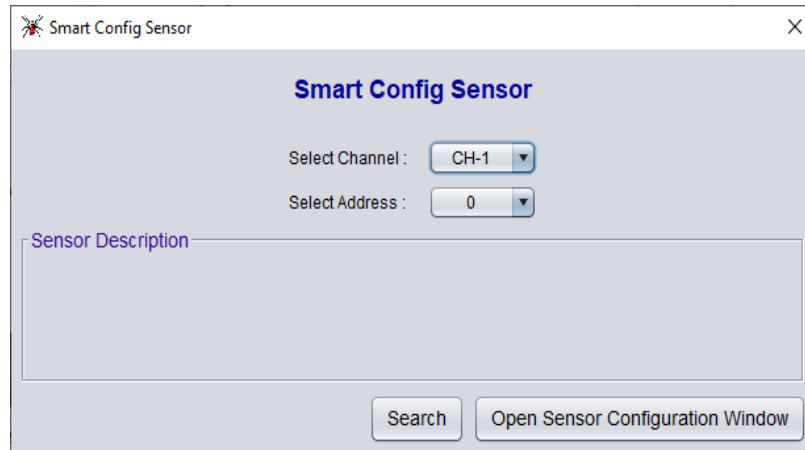
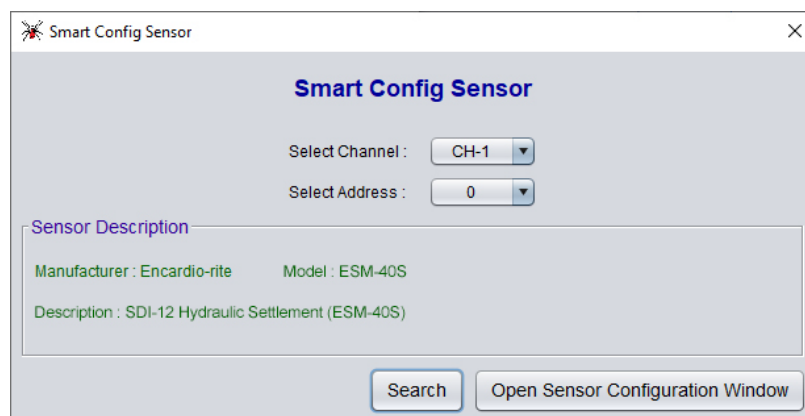

Figure 7-5
Figure 7-6 Smart config sensor screen
- The screen as shown in figure 7-5 will appear. Select channel number at which the sensor is connected. Select the sensor's address and click on “Search” button to find the sensor on SDI-12 Bus. It will show the sensor details as shown in figure 7-6. Press on “Open sensor configuration window” to open configuration screen.